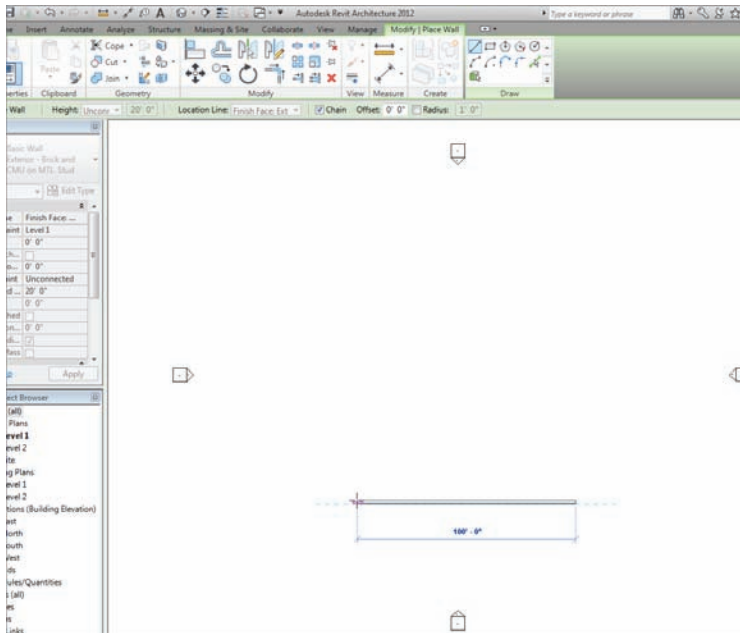

FIGURE 1.19 The procedure for drawing a wall in Revit Architecture
1. With the Wall command still running and the correct wall type selected, position your cursor in a location similar to the illustration in Figure 1.19. Now, pick a point in the view window.
3. Also notice the blue dimension extending from the first point to the last point. Although dimensions can't be typed over, this type of dimension is a temporary dimension for you to use as you place items. Type **100** (30000mm), and press the Enter key. (Notice you didn't need to type the foot mark (')). Revit thinks in terms of feet or millimeters. The wall is now 100' (30000mm) long (see Figure 1.19).